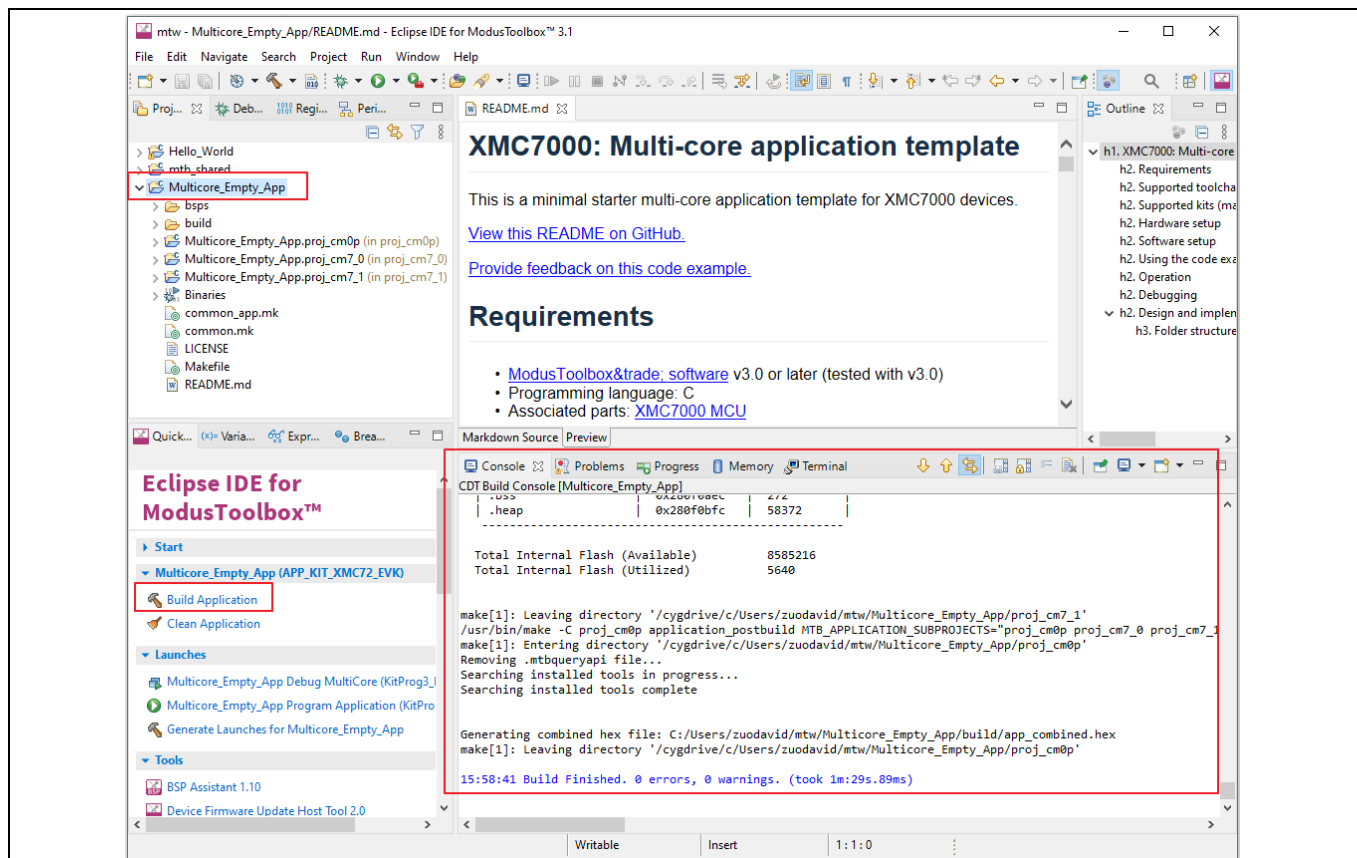

Figure 17 Build the multi-core application
- The **Console** view lists the results of the build operation, shown in Figure 17.